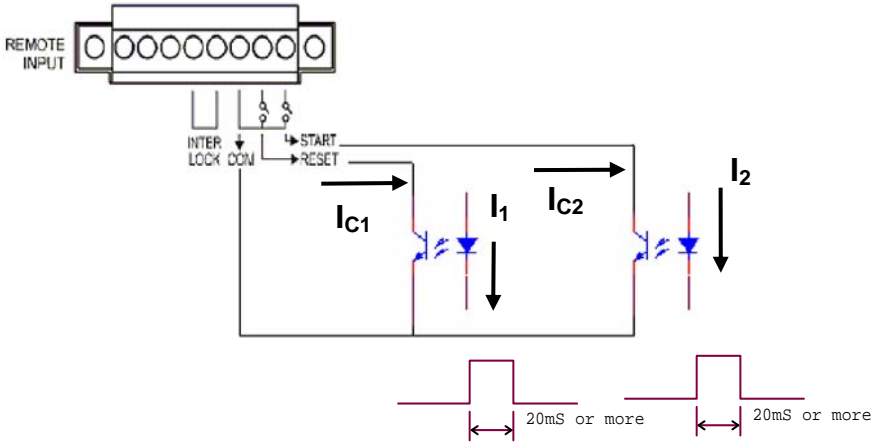

Figure 4-21
3. Some logical components such as transistor, FET, coupler. Also can be used to connect as control circuit as Figure 4-21. The connecting signal and circuit as Figure 4-21. Only the circuit includes the following statuses, it can control the main unit.
4. The relay switch control as Figure 4-19 and photo-coupler control as Figure 4-21 are controlled by component contact. It is effective to avoid error operation system which caused by interference. Although the main unit has a lot of preventions, it is necessary to be careful that interferences result from setting measurement system.